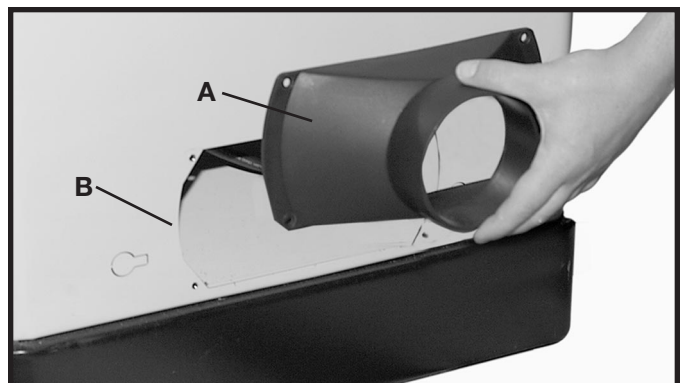

Fig. 37
The Unisaw is supplied with a dust chute connector to provide a means of connecting a 4" diameter dust collector hose to the machine. Align the four holes in the dust chute adapter (A) Fig. 37, with the four holes in the back of the saw cabinet (B) and attach the dust chute adapter with four #10 x 1/2" sheet metal screws.